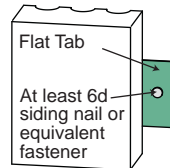

Figure 20
**Step 2:** For wood frame construction, attach the trim to the building with at least 6d siding nails fastened through the Flat Tabs. ET&F or equivalent fasteners may be used to attach the Flat Tabs to steel frame construction. (Figures 20)